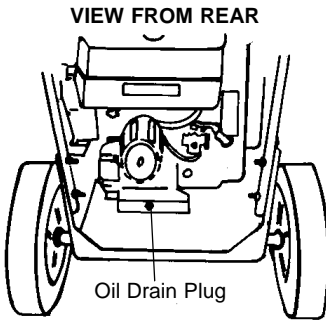

FIG. 1-MAINT.
- Remove the oil drain plug as shown in **Fig. 1-MAINT** and drain the oil into a flat pan.